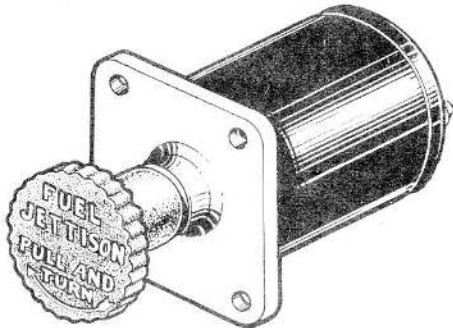
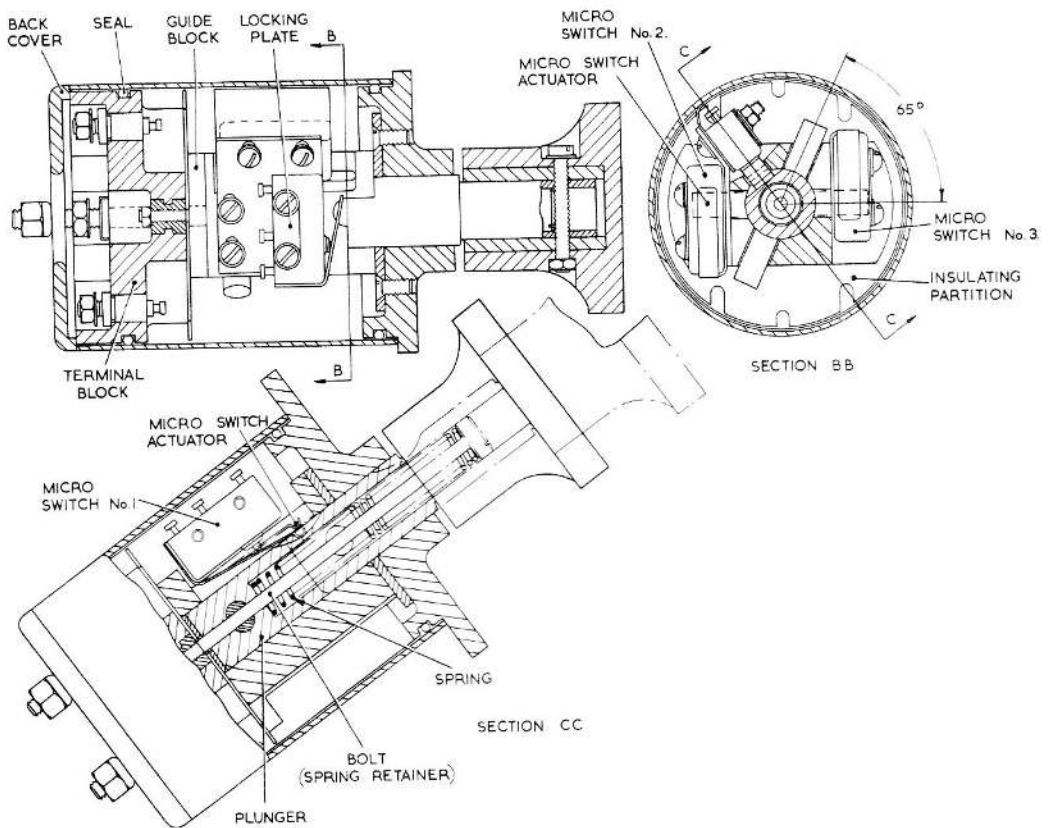

Fig.1 Fuel jettison switch, Type MAA2705
Fig.2 Section views of switch, Type MAA2705
2. A general view of this switch is given in fig.1, with section views in fig. 2. It consists basically of a hand control knob secured to one end of a spring-loaded plunger, an operating pin at the other end of the plunger, three micro switches and a terminal block.